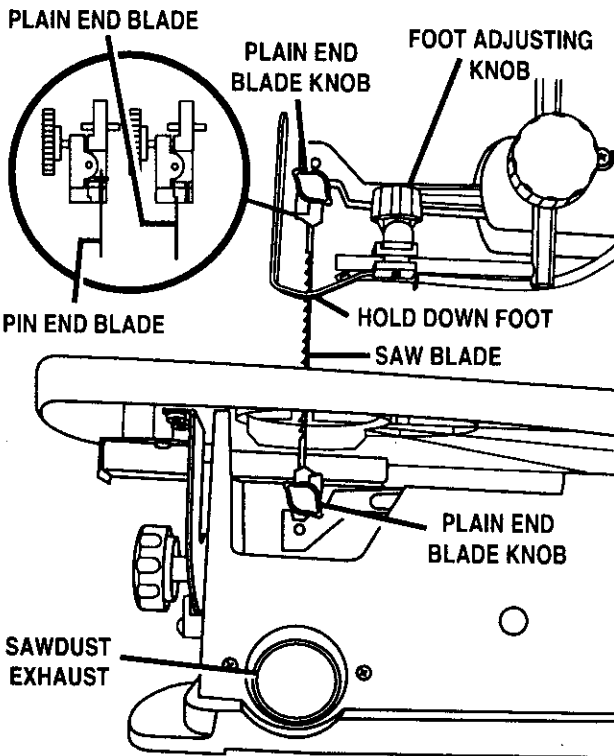

Fig. 13
See Figure 13.
- Loosen the foot adjusting knob. See Figure 13.
- Loosen the foot adjusting knob. *See Figure 13.*